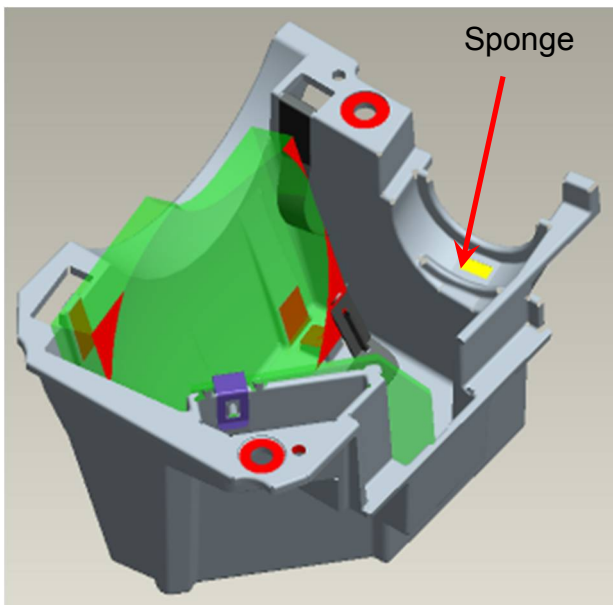

Fig. 2-11
- VIII. Paste "AL Sponge" on cannellure of SUB HSG (Fig. 2-11).